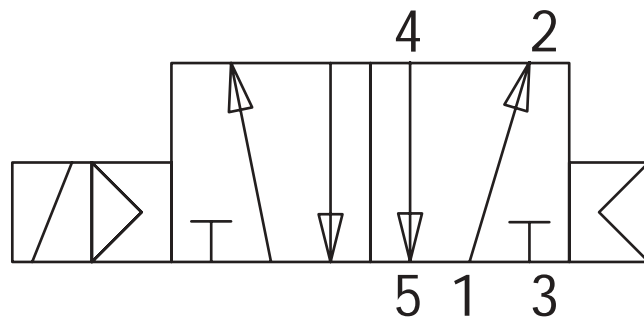
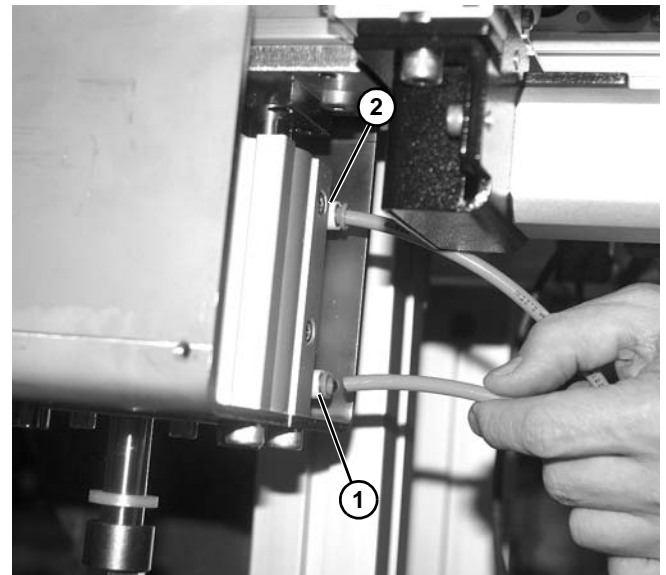

Figure 41
Figure 43
Dorner recommends using a 5-port 2-way solenoid valve (**Figure 41**) to operate the Lift and Transfer Pallet Unit.
4. Connect Port 4 (**Figure 41**) of the 5-port 2-way solenoid to the lowest port (**Figure 43, item 1**) on the lift. Dorner fittings accept 1/4" outside diameter tubing standard.
5. Connect Port 2 (**Figure 41**) of the 5 port, 2 way solenoid to the upper port (**Figure 43, item 2**) on the lift. Dorner fittings accept 1/4" outside diameter tubing standard.